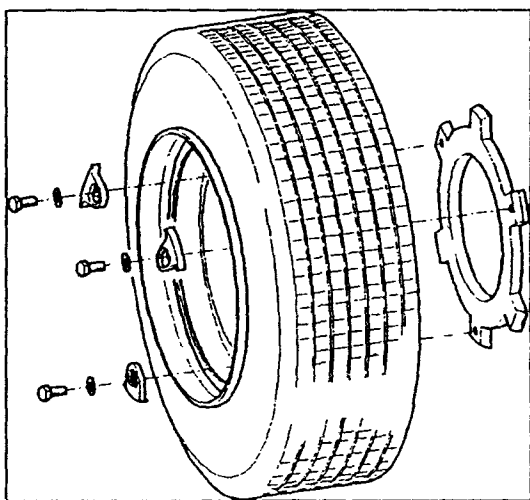

Fig.22
A. Mount the adaptor to the rim. Tighten the clamps in cross pattern with equal torque (Fig.22).